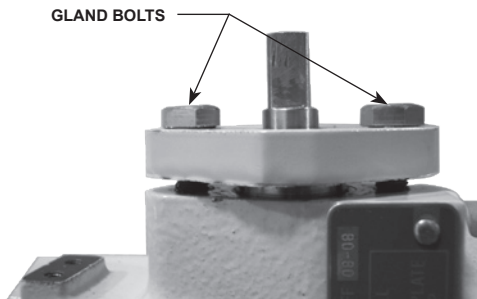
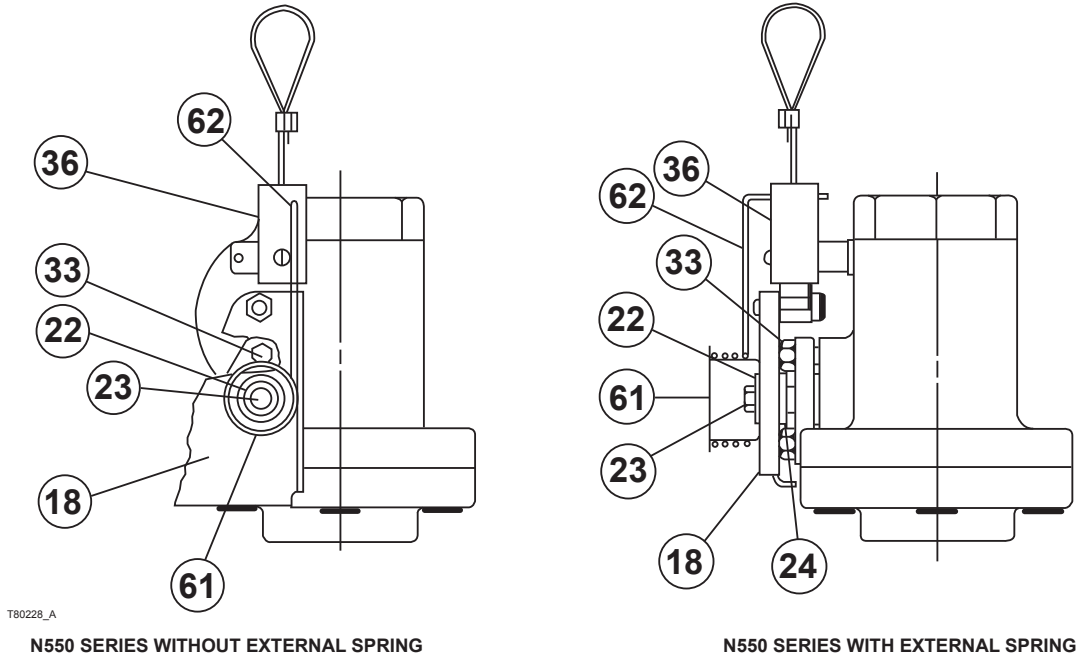
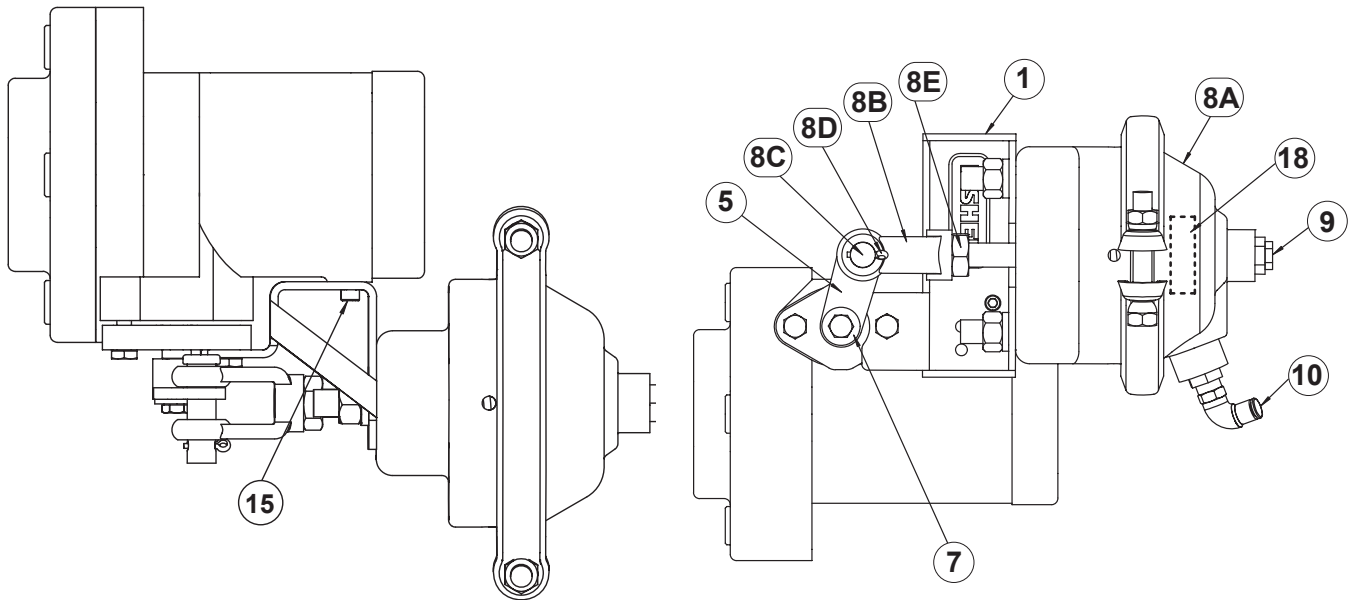

Figure 2. Tighten Gland Bolts Evenly to Keep Retainer Plate Parallel from Valve Body
Figure 4. N550 Series Valve Prior to Mounting Type P539A
Figure 5. Type P539A Pneumatic Actuator Assembly
Refer to Figure 4, **for units with an external spring:** Remove the bolt (key 23), spring mandrel (key 61), the external torsion spring (key 62), fuse link (key 22), handle (key 18), latch block (key 36), and the rear gland bolt (key 33). **KEEP THE BOLTS (keys 23 and 33) AND THE RETAINER (key 24).**
Refer to Figure 4, **for units without an external spring:** Remove the latch block (key 36), fuse link (key 22), bolt (key 23), handle (key 18), and the rearward rear gland bolt (key 33), closest to the actuator clevis. The other gland bolt should remain in place. **KEEP THE BOLTS (keys 23 and 33).**
Refer to Figure 5, **mounting the actuator as following steps:**
1. Mounting the actuator BRACKET the same direction as Figure 5 onto the valve's rear gland. Replace and tighten the rear gland bolt (key 33, Figure 4). **DO NOT OVER TIGHTEN THE GLAND BOLT** because binding of the ESV shaft could occur. Tighten the gland bolt only enough to prevent leakage and ensure that the retainer plate is parallel to the valve body (see Figure 2).
2. Install the hex bolts (key 15) through hole in the bracket and attach to the N550 Series body. For installing the Type P539A to the 1-1/4-inch Type N550, you must utilize the adaptor plate which was used to attach the latch block. Remove
3. Put the LEVER on the ESV shaft and then reinstall the BOLT (key 23, Figure 4) and the LOCKWASHER (key 7).
4. Connect the actuating pressure line tubing to the push to connect fitting port (key 10).